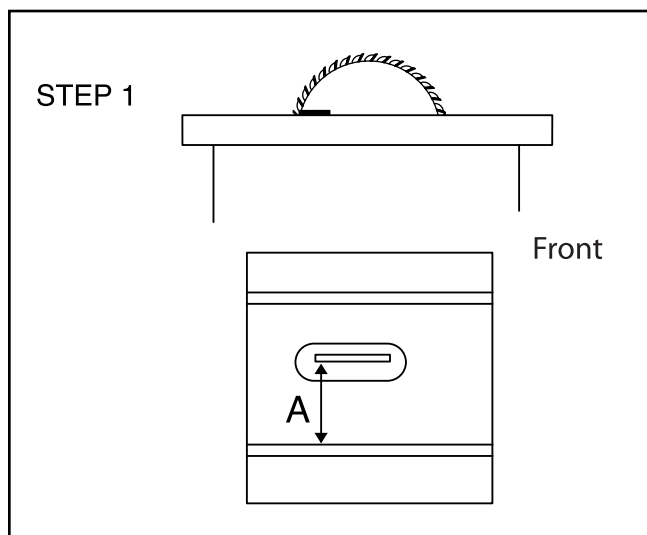

Figure 41. 90° blade parallelism measurement.
1. Using an adjustable square, measure the distance between the miter slot and the front of your blade as shown in **Figures 41 and 42**.